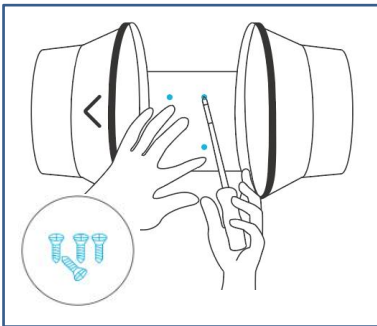

Fig.7.
- 3、 Align the flange bracket's holes with the wall anchors. Screw in four wood screws with a screwdriver or drill to secure the flange bracket. Make sure its airflow arrow is pointing in your desired direction. See the (Fig.7.)